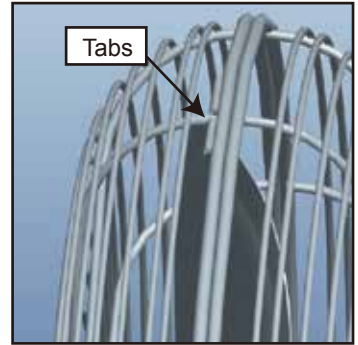

Figure 13.
6. Place the **Front Grille** against the **Back Grille** and push them together until the tabs on the grilles hold them together. **Figure 13.**